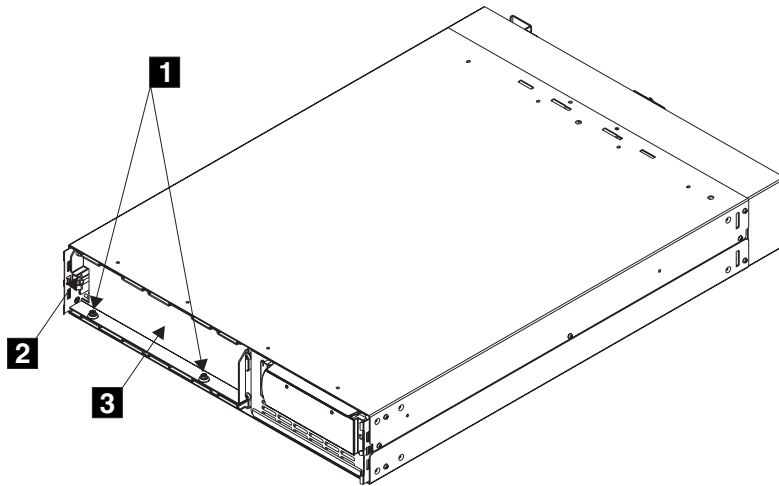

Figure 308. Fastening the battery retaining bracket
- a. Remove the two bolts (1 in Figure 308 on page 630).
- b. Remove the hex nut (2 in Figure 308 on page 630).
- c. Remove the battery retaining bracket (3 in Figure 308 on page 630).